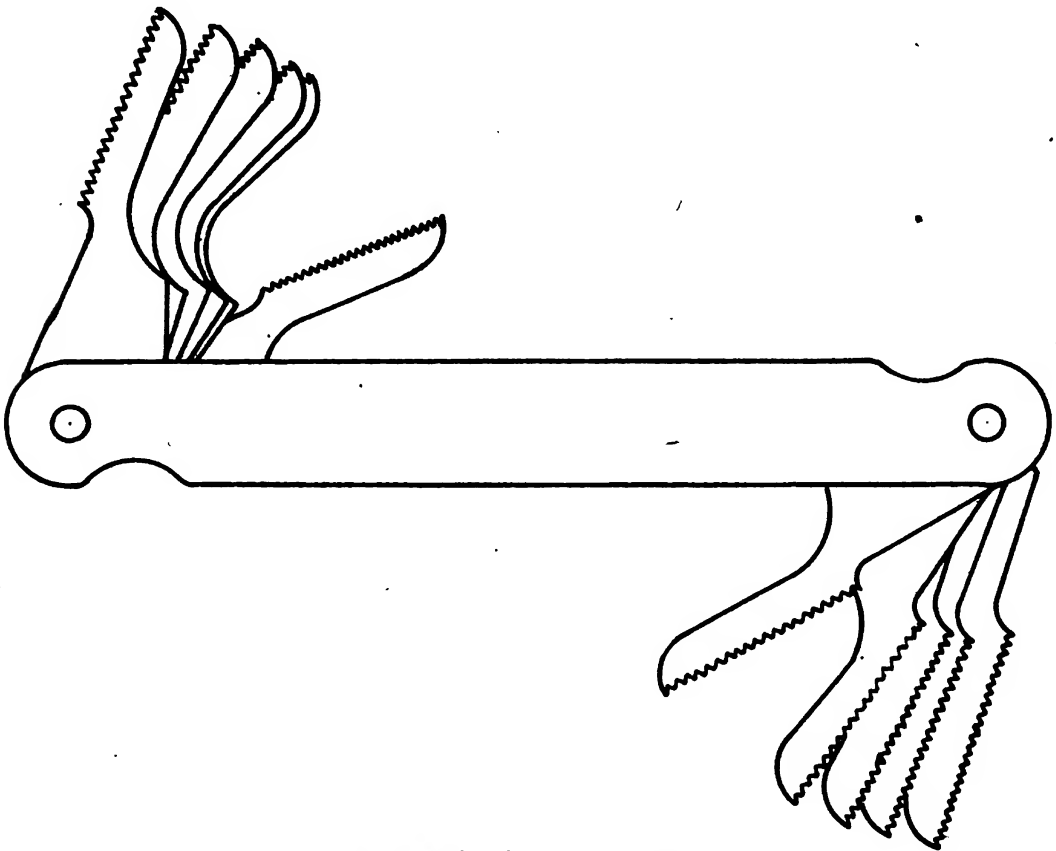

FIGURE 32.—Screw pitch gage.
*b.* A screw pitch gage is used for measuring the number of threads per inch (see fig. 32). This is a tool that has a number of notched blades; each blade having the same number of notches per inch as the thread it represents. To determine the number of threads per inch on a screw take the screw and select a blade from the screw pitch gage and try to fit the notches of the gage with the threads of the screw; if they mesh or fit exactly down into the threads, it is the proper